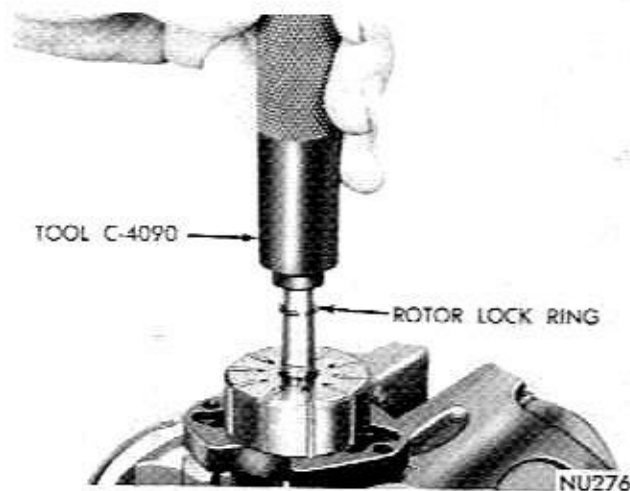

Fig. 13—Installing Rotor Lock Ring
(5) Slide rotor over splines with the counterbore of rotor facing down. Install rotor lock ring making sure ring is seated in groove (Fig. 13).